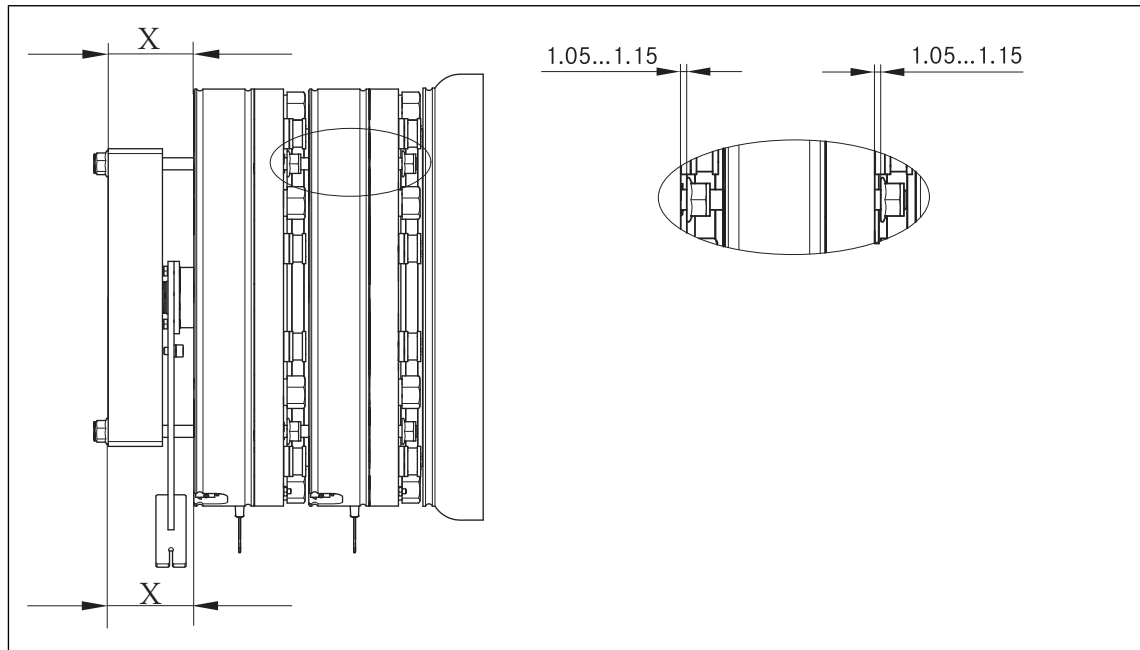

Fig. 19 Test dimensions and reference dimensions
13. Tighten the lock nuts (pos. 12.8) on the clips (12.11) evenly until the nuts of the tension rod are in contact with the armature plate of the second stator (1A) (there should be noticeable resistance). While tightening, make sure that the clips (12.11) are parallel to the rear of the stator (1A). (Check using a caliper gauge.) If there are dimensional differences where $X > 0.1 \text{ mm}$ (see Figure 19), this should be corrected by loosening the lock nut (12.8) at the smaller dimension and tightening the lock nut (12.8) at the larger dimension until the clips (12.11) are adjusted in parallel to the back of the brakes (as shown in Figure 19).
14. Evenly tighten the lock nuts on the motor end shield side up to the point where the nuts of the tension rod are in contact with the armature plate of the first stator (1) (tangible resistance).